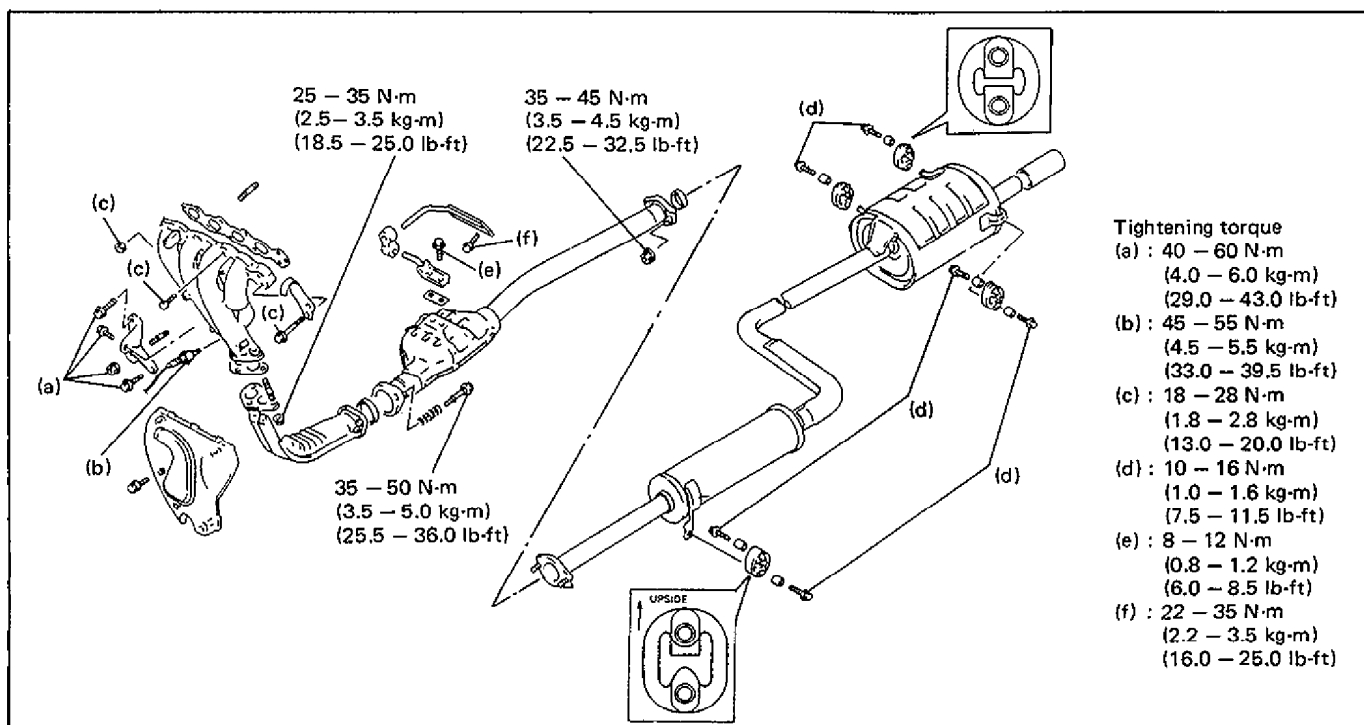

Fig. 6K-2 Recommended Torque Specification
Refer to Fig. 6K-2 for location of bolts and nuts.
- There are two types of muffler mounting. Refer to Fig. 6K-1 for their correct use.